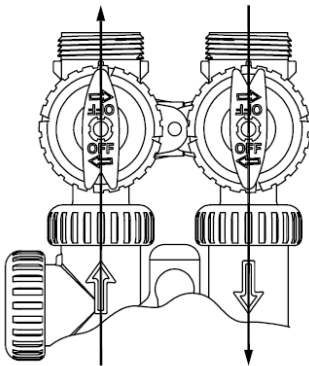

Figure 1
1. Normal Operating Position: inlet and outlet handles point in the direction of the engraved arrows on the control valve. *Water flows through the treatment system in normal operating position (Figure 1).*